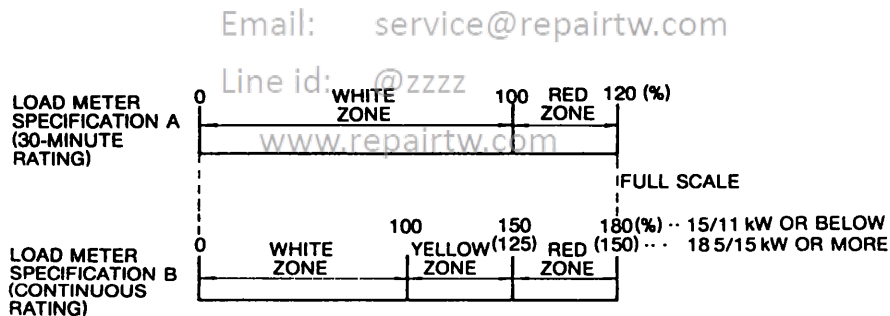

Fig. 8.5 Specifications of Load Meter Scale
4. Adjust the load meter so that its needle indicates the setting scale during rapid acceleration. When using a voltmeter (internal impedance of 10 kΩ) as a load meter, select shunt connector L1 of the load meter and make adjustments by the procedures stated above. Specifications of the load meter setting scale are shown in Fig. 8.5.